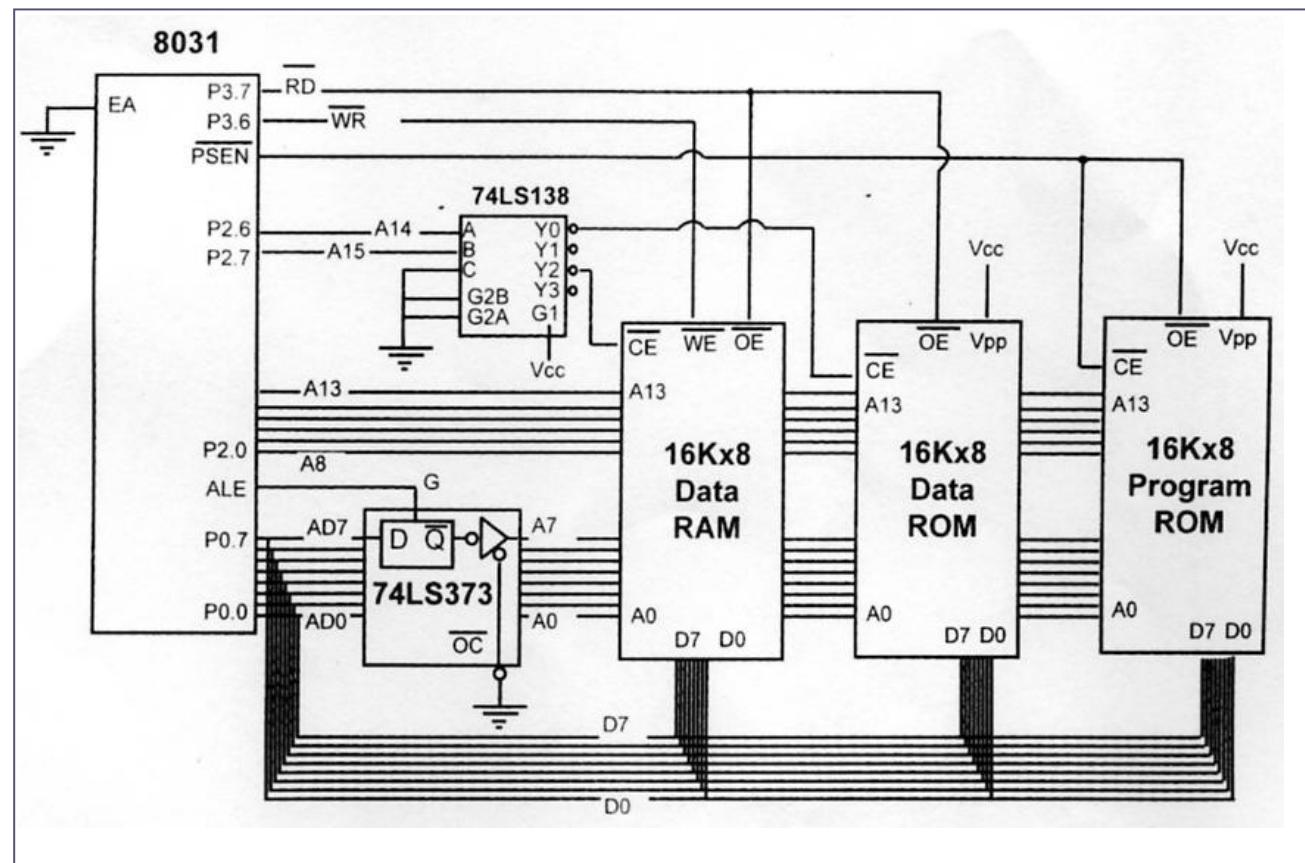

Figure 14-18. 8051 Accessing 256K*8 External NV-RAM
- (a) The 256K×8 NV-RAM has 18 address pins (A0 – A17) and 8 data lines. As shown in Figure 14-18, A0 – A15 go directly to the memory chip while A16 and A17 are controlled by P1.0 and P1.1, respectively. Also notice that chip select of external RAM is connected to P1.2 of the 8051.